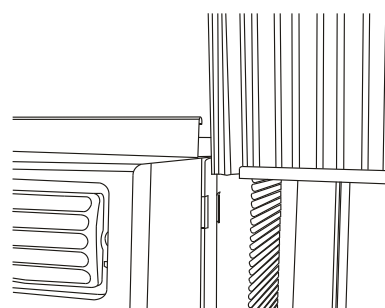

Fig.2
B. Slide the free end of the accordion panel directly into the holding slot on the side of the air conditioner cabinet as shown in Fig. 2. Slide the panel down all the way and make sure it sits securely inside the channel.